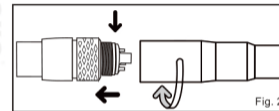

Fig. 2
- Loosen the Hose Nut and remove from the Hose (Fig.2).